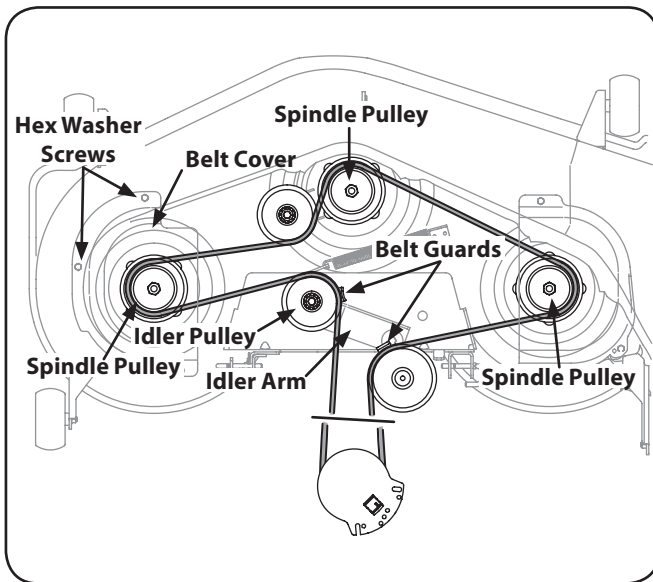

Figure 7-12
- Remove the two idler pulleys by removing the hex screws and flange lock nuts that secure them to the deck and the idler arm. See Figure 7-12. Do not lose any of the hardware when removing the hex screw and flange lock nut.
- Place the belt around the idler pulleys removed in step 3 with the "V" side facing in. Once in place, reinstall all the hardware and tighten the flange lock nut to secure the assembly. See Figure 7-12.
- Route the belt as shown in Figure 7-12 and then reinstall the deck (refer to Deck Installation on page 30).